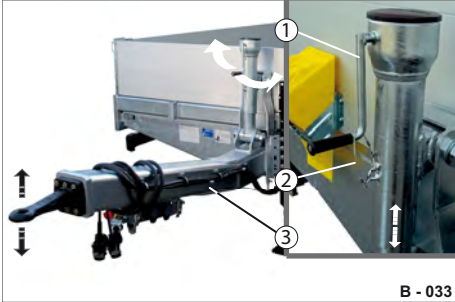

Fig. 40 Height adjustment of drawbar
- Unclamp the securing cable (Fig. 40/2).
- Turn the crank (Fig. 40/1) clockwise or anticlockwise and adapt the height of the drawbar (Fig. 40/3) of the pin coupling (Fig. 43/2) on the towing vehicle.
- Position the crank (Fig. 40/1) downward.
- Clamp the securing cable (Fig. 40/2). The crank is secured against turning of its own accord.